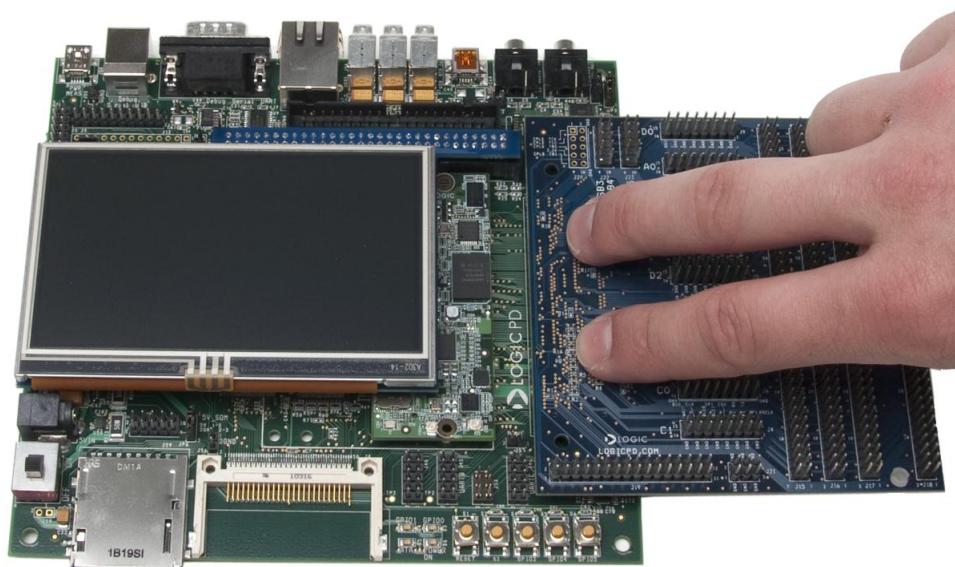

Figure 7.5: High-Density Breakout Board Connected to Baseboard
2. Press straight down on the breakout board, applying even pressure over the two baseboard BTB connectors. See Figure 7.5.